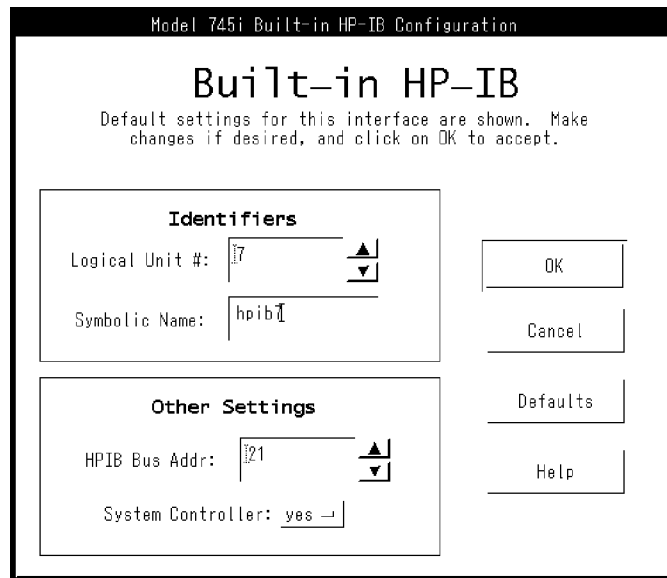

Figure 5-12. Model 745i Built-in HP-IB Configuration Window
- a. Double-click **745i or 747i Built-in HP-IB**. The model 745i built-in HP-IB configuration window appears as shown in Figure 5-12.